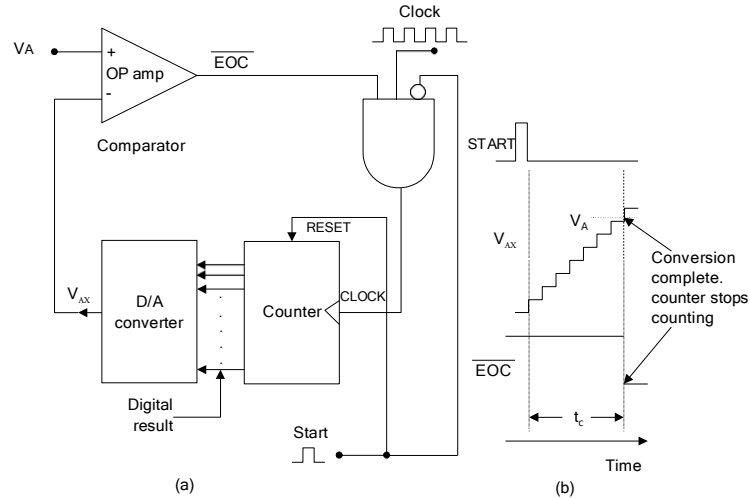

Fig. 7.7 : Digital-ramp ADC.
One of the simplest versions of the general ADC of Fig. 7.7 uses a binary counter as the register and allows the clock to increment the counter one step at a time until $V_{AX} \geq V_A$. It is called a digital-ramp ADC because the wave form at V_{AX} is a step-by-step ramp (actually a staircase) like the one shown in Fig. 7.7. It is also referred to as a counter-type ADC. Fig. 7.7 is the diagram for a digital-ramp ADC. It contains a counter, a DAC, an analog comparator, and a control AND gate. The comparator output serves as the active-LOW end-of-
5. As the counter advances, the DAC output, V_{AX} , increases one step at a time as shown in Fig. 7.7.